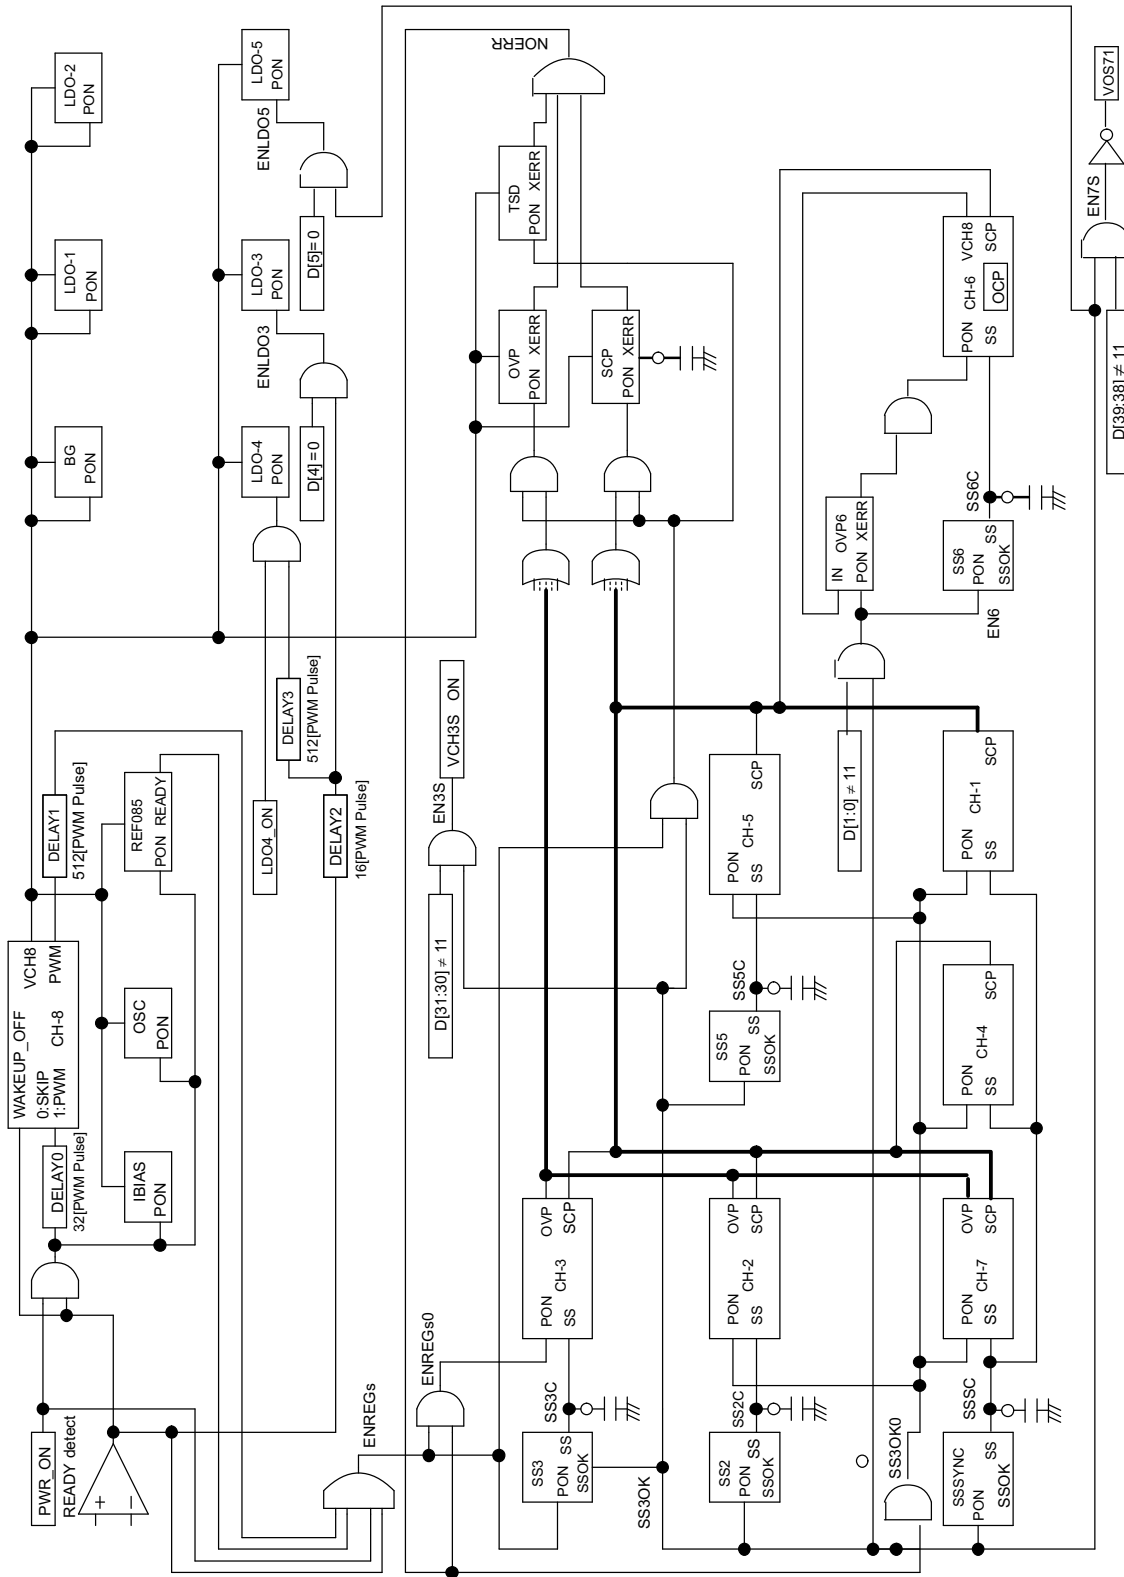
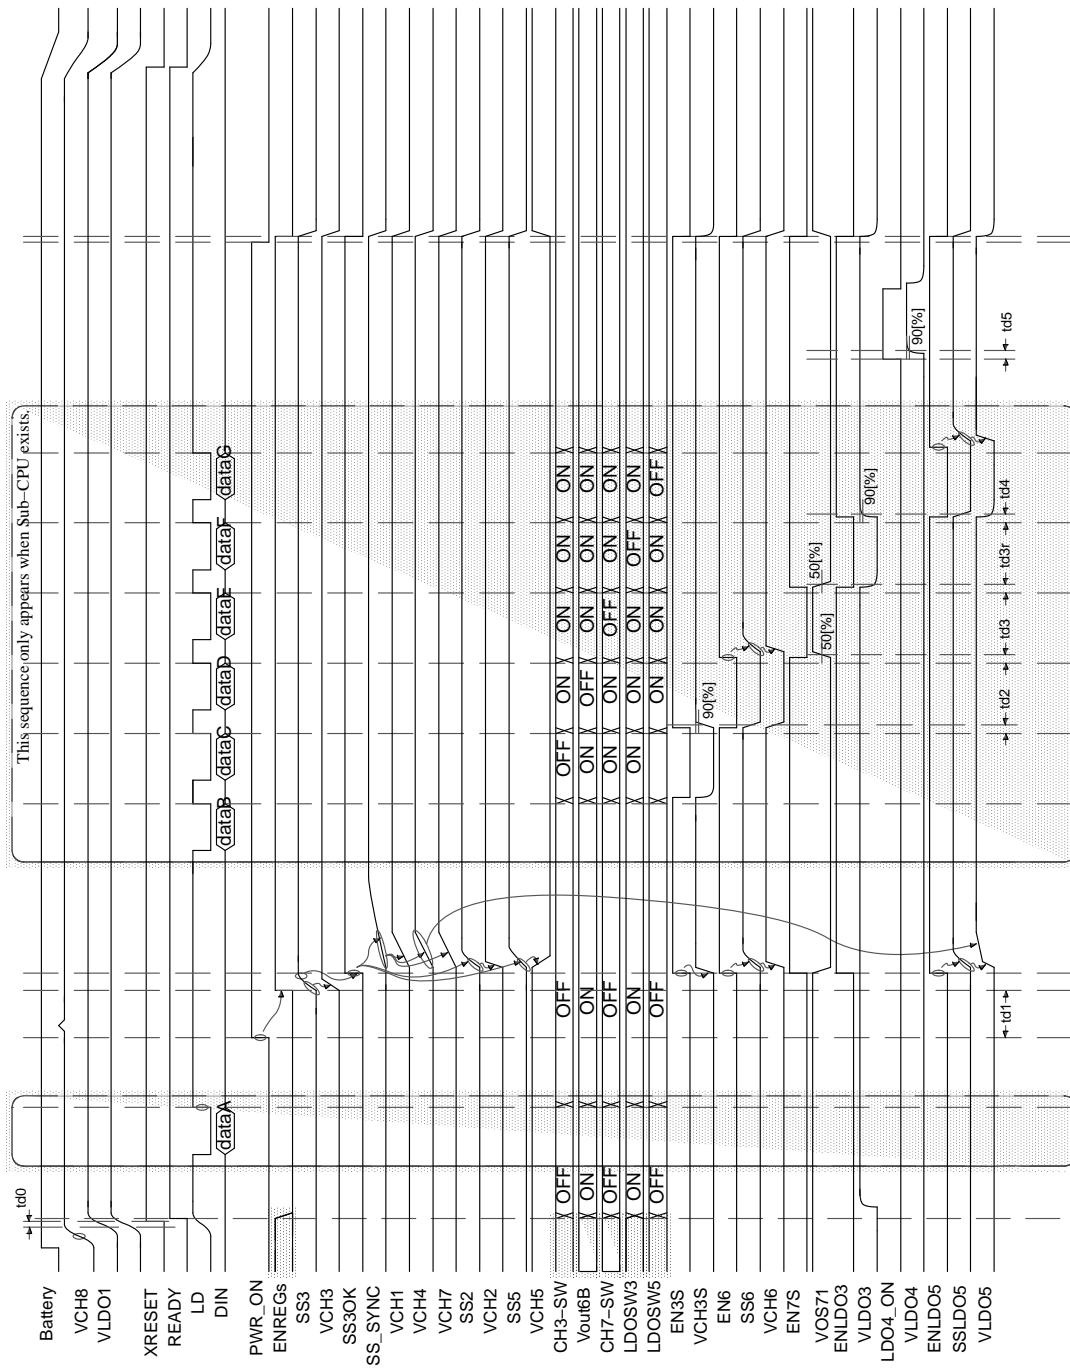

Figure 29. Enable Signal Connections
Figure 30. Operation Sequence Chart
A delay is inserted before LDO-3 is turned on so that the entire system can start up and be stable. LDO-3 cannot be turned on until approximately 30  $\mu$ s elapse after the detection of READY. DELAY2 in Figure 29 represents this delay.
To prevent an inrush current during startup, LDO-4 has a delay so that it is not turned on simultaneously with LDO-3. LDO-4 cannot be turned on until 1.03 ms elapses after the detection of READY. This ensures that LDO-4 is not turned on until 1 ms elapses after the startup of LDO-3, which is turned on 30  $\mu$ s after READY detection. DELAY3 in Figure 29 represents this delay.
Figure 29 shows the connection of enable signals for the TPS65520. Figure 30 shows a timing chart. In Figure 30, ENREGs, EN3S, EN6, EN7, ENLDO3, and ENLDO5 represent the internal enable signals shown in Figure 29.
In Figure 30, the TPS65520 performs the following operation, described along the time axis in the figure:
2. On the rising edge of PWR\_ON, CH-8 exits from skip mode and enters PWM mode. The DELAY0 and DELAY1 blocks, shown in the upper part of Figure 29, insert delays to ensure that the mode transition is over before channels start operating, resulting in a total delay of 544 PWM pulses to complete this process.
The shaded portions of Figure 30 represent the on/off control applied by the Sub-CPU (if used) through the serial interface. If a Sub-CPU is used, control registers are written between the rising edges of XRESET and PWR\_ON. Any channels that have been turned off do not start until the Sub-CPU turns them on again. If the Sub-CPU specifies *off* for a channel that has been active from the startup, the channel goes off from that instant.